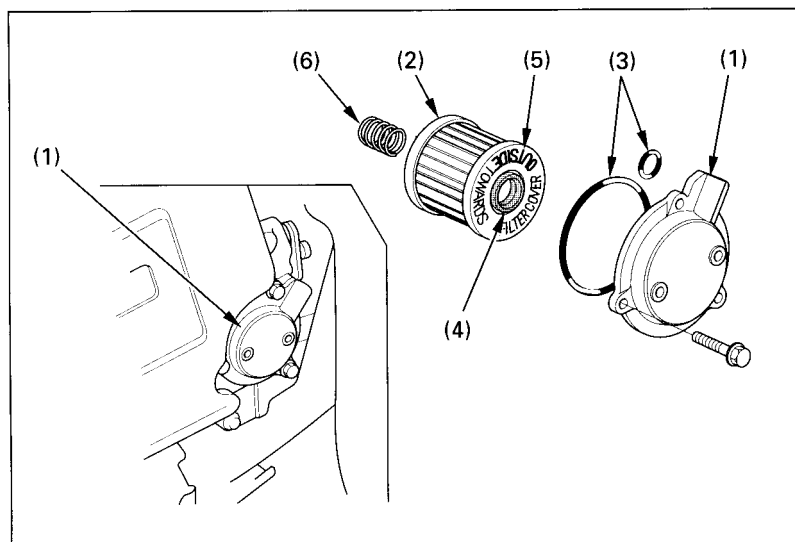

Fig. 4-13
(1) Oil drain plug
3. Remove the oil filter cover (1) (Fig. 4-13) by removing the bolts. Let the remaining oil drain out. Discard the oil filter (2).
4. Check that the oil filter cover O-rings (3) are in good condition and then install a new oil filter. Use only the Honda genuine oil filter or a filter of equivalent quality specified for your model. Using the wrong Honda filter or a non-Honda filter which is not of equivalent quality may cause engine damage.